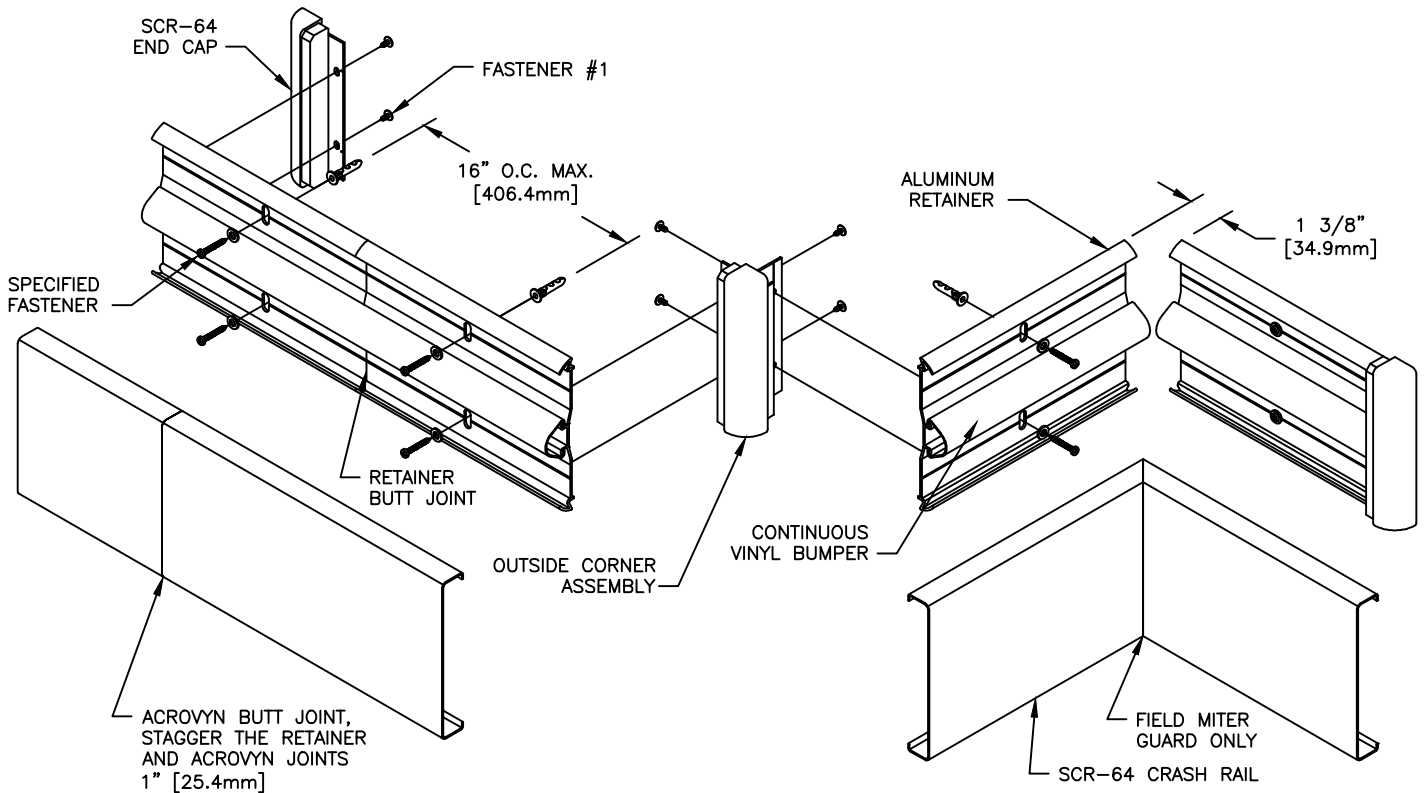

FIGURE 1.
2. CUT THE CONTINUOUS ALUMINUM RETAINER AND THE CONTINUOUS VINYL BUMPER TO LENGTH, USING THE REQUIRED DEDUCTIONS AS NOTED (SEE LAYOUT VIEW). PRE-DRILL CLEARANCE HOLES IN THE ALUMINUM RETAINER 16" [406.4mm] O.C. AS REQUIRED (SEE FIGURE 1)(SEE NOTE 2 AND CHART ON PAGE 2).